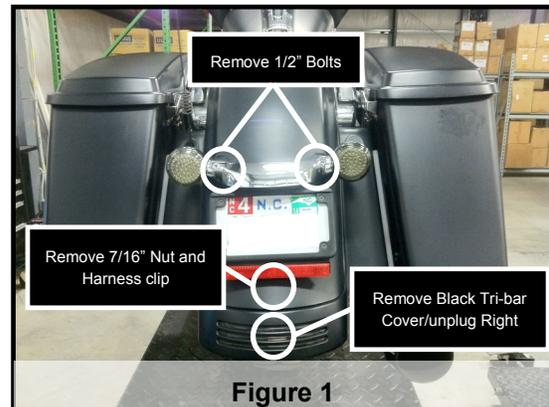

Figure 1
3. Remove the Black cover to the back of the tri-bar light on the inside of the fender. (See Figure 1)